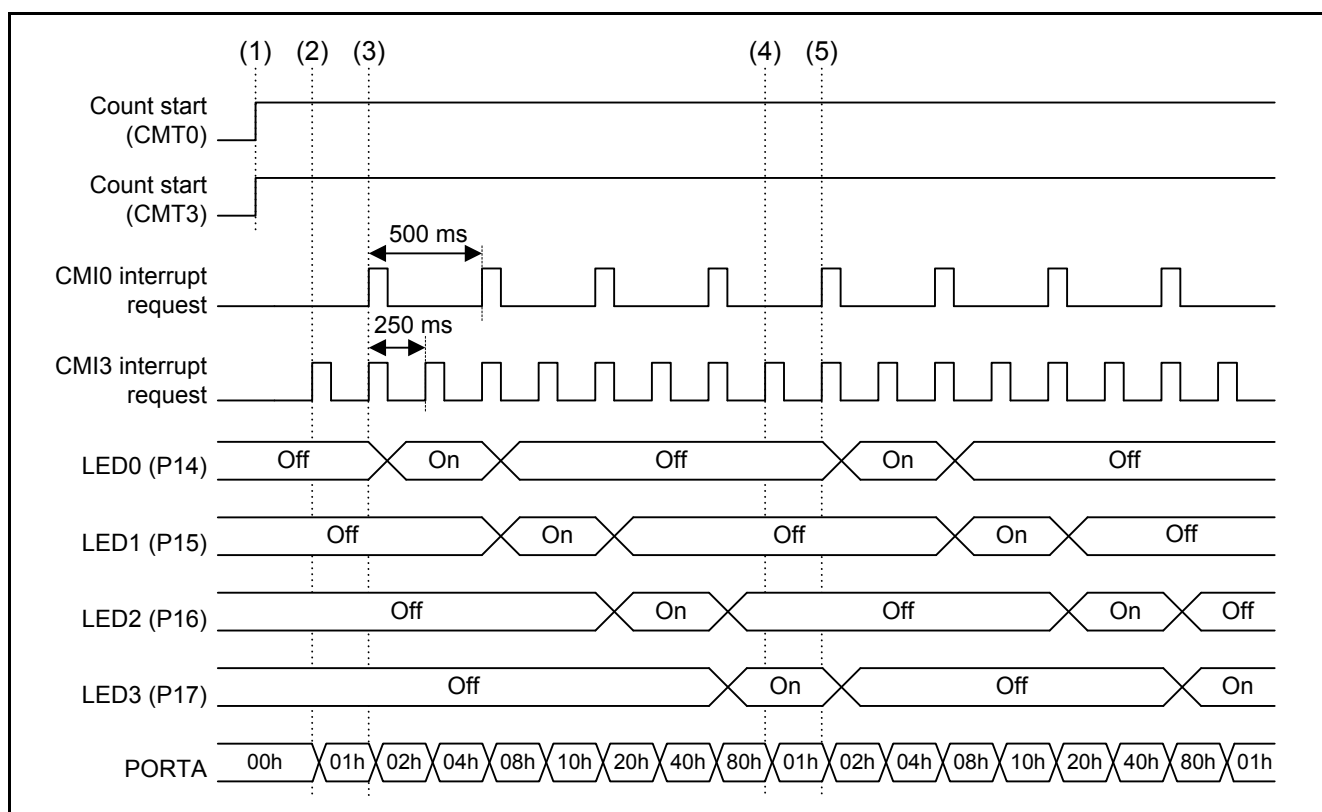

Figure 5.1 Operation Timing Diagram
- (1) After initialization, when setting bits CMTSTR0.STR0 and CMTSTR1.STR3 to 1, CMT0 and CMT3 start counting.
- (2) When the CMI3 interrupt request is generated, write the first byte of PORTA output data (01h) to the PORTA.PODR register using DTC transfer. Then every time the CMI3 interrupt request is generated, PORTA output data is sequentially transferred to the PORTA.PODR register using DTC transfer.
- (3) When the CMI0 interrupt request is generated, write the first byte of LED output data (LED0 turned on) to the PORT1.PODR register using DTC transfer. Then every time the CMI0 interrupt request is generated, the LED output data is sequentially transferred to the PORT1.PODR register and output to the LED using DTC transfer.
- (4) After DTC transfers with the CMI3 interrupt source have been performed for the specified number of times (8 times in the sample codes), when the CMI3 interrupt request is generated again, perform DTC transfer from the first byte of PORTA output data.
- (5) After DTC transfers with the CMI0 interrupt source have been performed for the specified number of times (4 times in the sample codes), when the CMI0 interrupt request is generated again, perform DTC transfer from the first byte of LED output data.
Figure 5.1 shows the Operation Timing Diagram. (1) to (5) in the figure correspond to (1) to (5) in the description above.